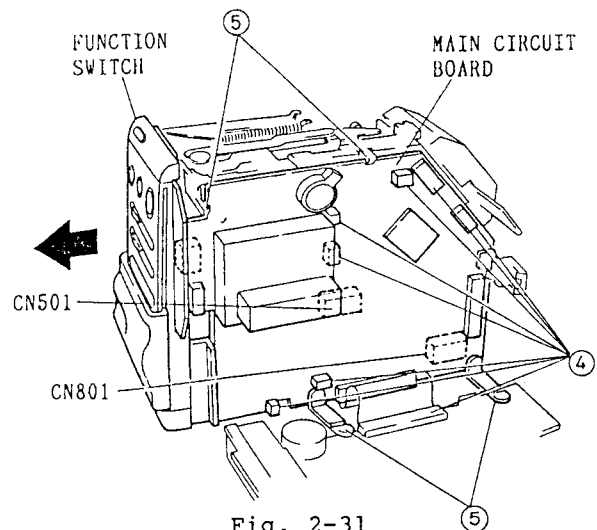

Fig. 2-31
3. Pull out the function switch in the direction of the arrow from the main circuit board. (See Fig. 2-31)
4. Disconnect seven (7) connectors (CN002, CN004, CN006, CN007, CN012, CN401, CN402) and one (1) flat cable (CN804).
5. Release two (2) tabs, and while disconnecting two (2) connectors (CN501, CN801) from the motor drive circuit board and FM audio circuit board, remove the main circuit board in the direction of the arrow. (See Fig. 2-31)
8. Release two (2) tabs of the circuit board holder and remove the main circuit board.